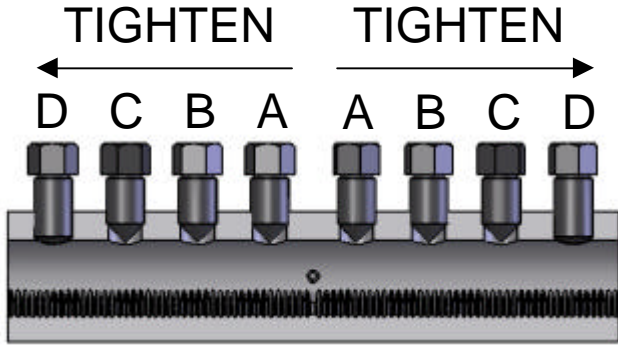

Figure 1 Assembly cross section
Step 1: Read all instructions and procedures before commencing splicing. Ensure the LENTON LOCK coupler is sized properly for the bars being spliced and per project plans. Product should arrive with bolts configured as shown in Figure 1 (round point bolts should be on the ends).